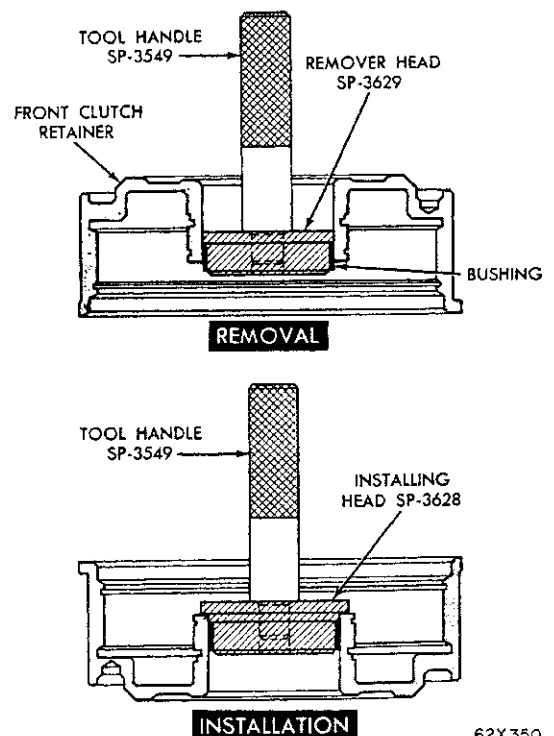

Fig. 89—Removing the Front Clutch Retainer Bushing—TorqueFlite
(1) Lay the clutch retainer (open end down) on a clean smooth surface and place the removing head Tool SP-3629 in the bushing. Install the handle Tool SP-3549 in the removing head (Fig. 89).
(2) Drive the bushing straight down and out of the clutch retainer bore. Be careful not to cock the tool in the bore.
(3) Lay the clutch retainer (open end up) on a clean smooth surface. Slide a new bushing on the installing head Tool SP-3628, and start them in the clutch retainer bore.
(4) Install handle Tool SP-3549 in the installer (Fig. 89). Drive the bushing into the clutch retainer until the tool "bottoms."
(5) Thoroughly clean the clutch retainer before assembly and installation.